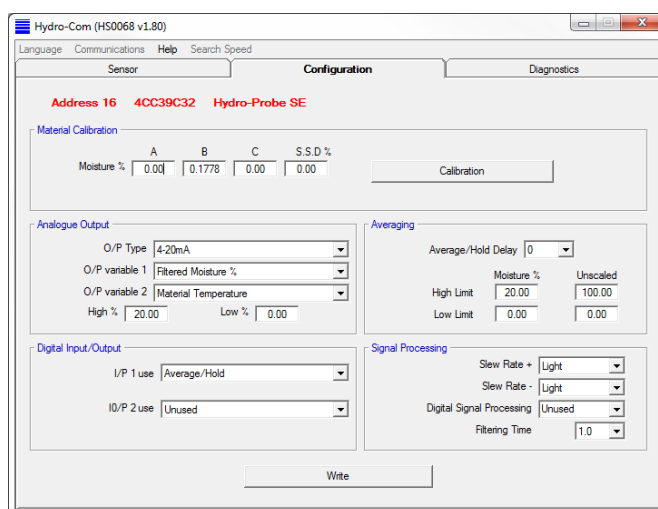

Figure 34: Hydro-Com Configuration Tab
11. Once the coefficients have been calculated enter the A, B and C Values into Hydro-Com. Select the sensor on the main screen (Sensor Tab) and select the configuration tab. The A, B and C values are entered in the Material Calibration section (Figure 34). Once completed select 'Write' to update the sensor (Ensure that the correct sensor is displayed at the top of the screen in red).